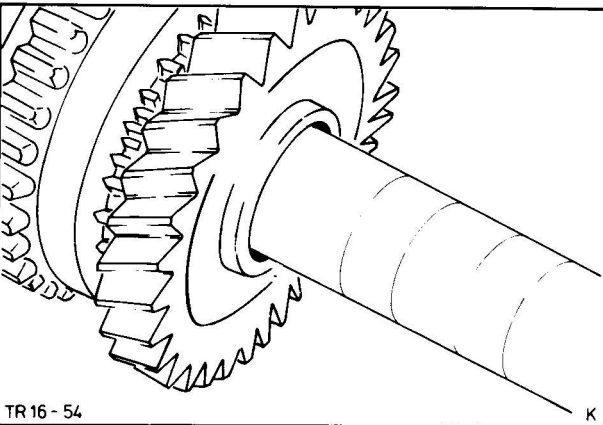

Fig. 83. 1st gear and synchroniser ring fitted
23. Fit 1st gear with synchroniser hub, Fig. 83.